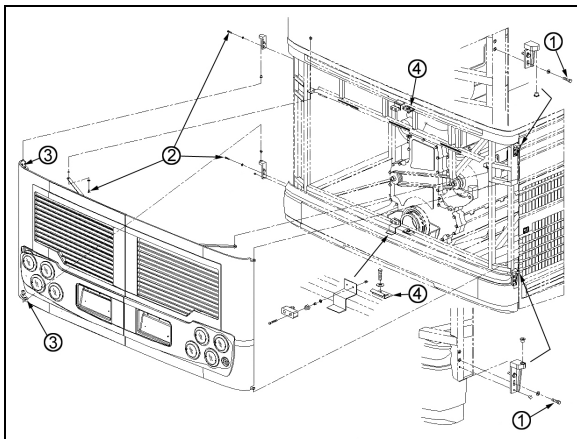

FIGURE 56: ENGINE COMPARTMENT DOORS 18633
1. Loosen the bolts, (1, 2 Fig. 56) holding the hinge to the vehicle structure to shift the door "UP or DOWN".
2. Loosening the bolts (3, Fig. 56) allows the door to be shifted "LEFT or RIGHT" and "IN or OUT".
To adjust the latch mechanism (4, Fig. 56) and the striker pin: